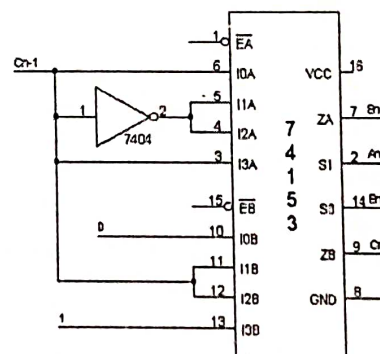

Figure 3: Connection diagram of Full Adder using 74153
MUX map for SUM is implemented in A part of MUX IC & MUX map for Carry is implemented in B part of MUX IC, A & B are select lines as indicated in **Figure 3**:
- 4. Data line inputs for FA:** Make use of 7404 and create input connections to MUX-A and MUX-B part of IC-74153 as shown in Figure 3